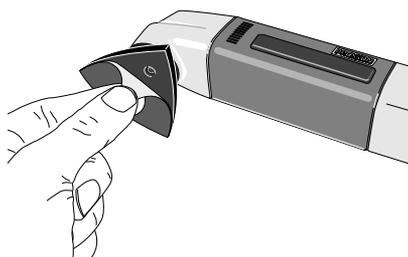

Fig. 3
1. Hold grinding pad at one corner (Fig. 3) to remove.